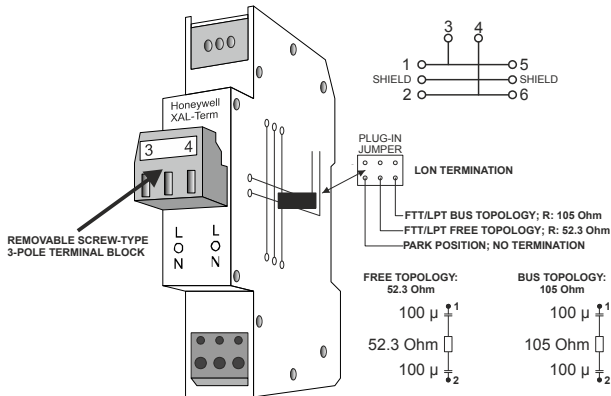

Fig. 11. LonWorks connection and termination module
- the LONWORKS connection / termination module (order no.: XAL-Term), which can be mounted on DIN rails and in fuse boxes (see Fig. 11).